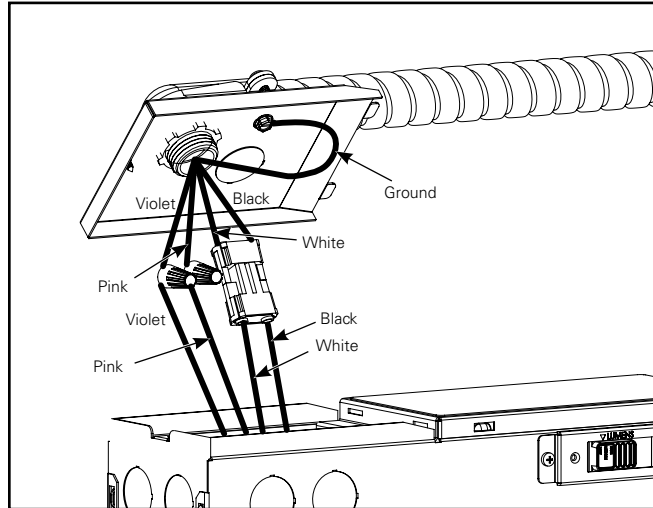

Figure 5.
- Bring supply wires into the junction box using a conduit fitting through the top access plate. Connect the line (black) and neutral (white) to the supplied quick disconnect. Attach ground wire to the ground screw on the access plate. (Figure 5.)